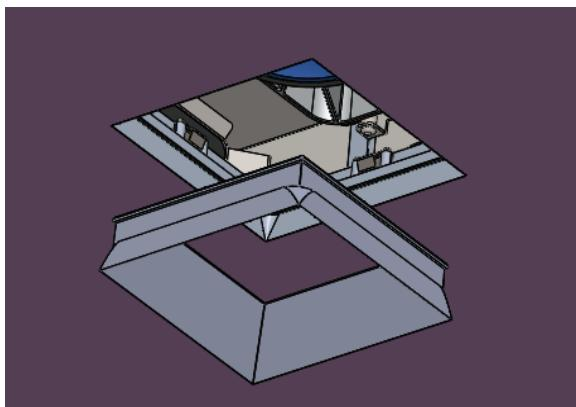

fig. 16
- Press the flangeless trim into the trim retainer (see fig. 16).